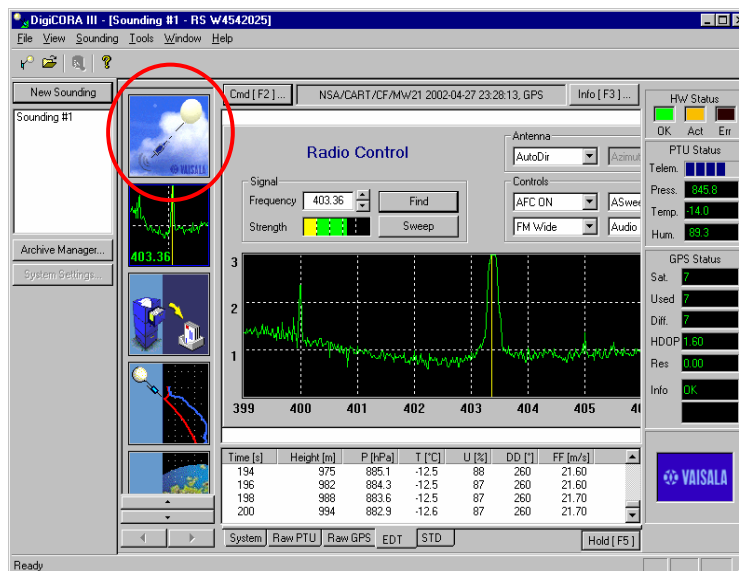

Figure 8
21. Return to the control screen by clicking on the upper left picture with a balloon (see Figure 8).